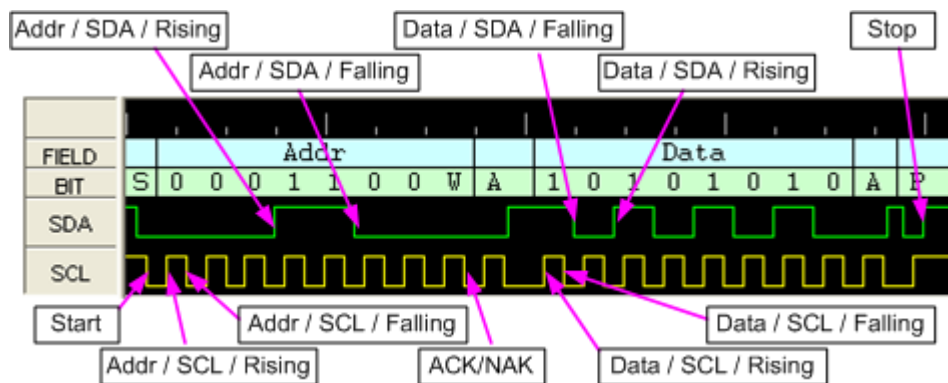

Figure 218. Glitch Injection Trigger Conditions
In addition to the glitch pattern itself, you must also specify the trigger condition for commencing the pattern injection. This condition consists of a bus cycle and/or an edge direction of the SDA or SCL signal. The edge direction parameter is only applicable for address and data cycles. You can define the triggering condition in the *Glitch Injection Trigger Setup* section of the window (5). This is similar to the waveform capture feature of the Parameters Scope tool. As soon as you arm the glitch injection, the CAS-1000 will monitor the bus and wait for the matching trigger condition. At the moment a match is found, the glitch pattern will be injected for up to next 1022 clocks at the designated frequency. The delay between the matching edge and the start of injection varies from 280 ns to 1.5 μ s depending on the glitch clock frequency. Figure 218 indicates various trigger points within a message.